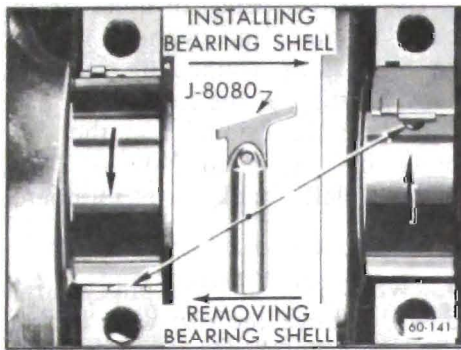

Figure 60-227--Removal and Installation of CRANKSHAFT Bearing Upper Shell
7. Remove upper bearing shell by inserting Bearing Shell Remover and Installer J-8080 in oil hole in crankshaft, then slowly turning crankshaft so that the tool rotates the shell out of place by pushing against the end without the tang. See Figure 60-227.